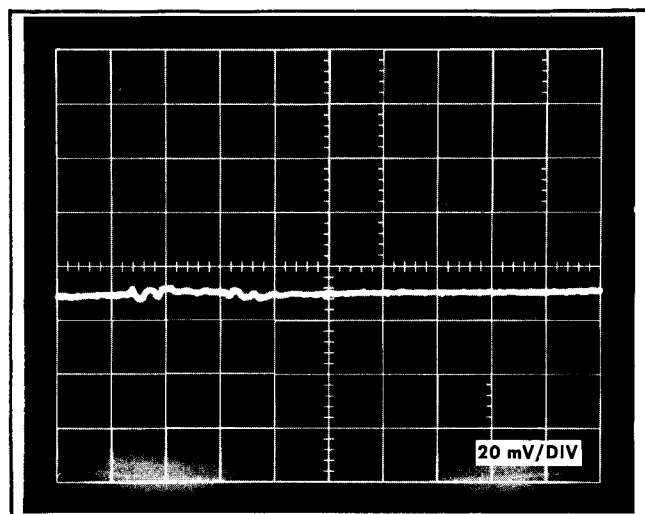

Fig. 7-42. Typical display of Trigger Kickout.
c. Set the TRIG SENSITIVITY control for a free-running trace and measure the amplitude of the pulse on the Indicator Oscilloscope, Fig. 7-42.